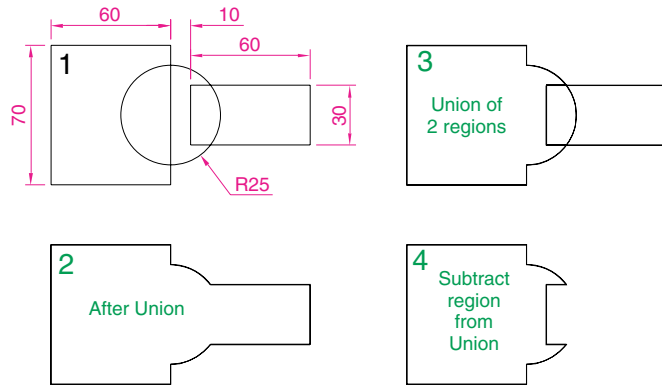

Fig. 13.11 Second example – Union, Subtract and regions
Second example – Union, Subtract and regions (Fig. 13.11)
1. Construct drawing **1** of Fig. 13.11 and with the **Copy** tool, copy the drawing three times to produce drawings **2, 3** and **4**.